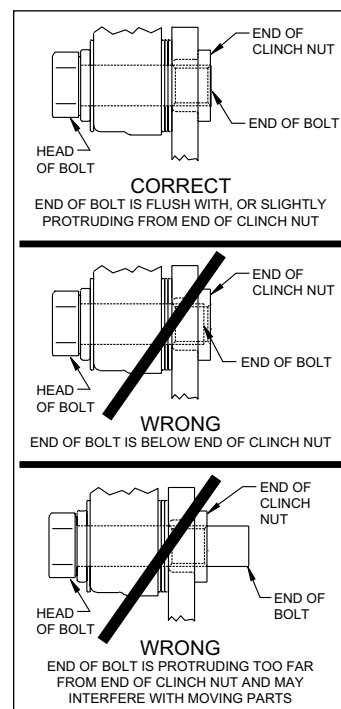

Figure 5. Clinch Nut Engagement Diagram
CAUTION: All mounting bolts must fully engage clinch nuts. Be sure to check that all bolts are either flush or protruding through flanged side of clinch nut after shimming, Figure 5.
•Temporarily tighten the caliper mounting bolts and view the rotor (4) through the top opening of the caliper. The rotor should be centered in the caliper, Photo 7. If not, adjust by adding or subtracting shims between the bracket and the caliper. Always use the same amount of shims on each of the two mounting bolts. **NOTE:** The end of each bolt must be flush with or slightly protruding from the head of the clinch nut, as shown in Figure 5. If necessary place spare shims between washer (6) and caliper mounting ear to achieve the proper clinch nut engagement. Once the caliper alignment and clinch nut engagement are correct, remove the bolts one at a time, apply red *Loctite*® 271 to bolt threads, and torque to 40 ft-lb.